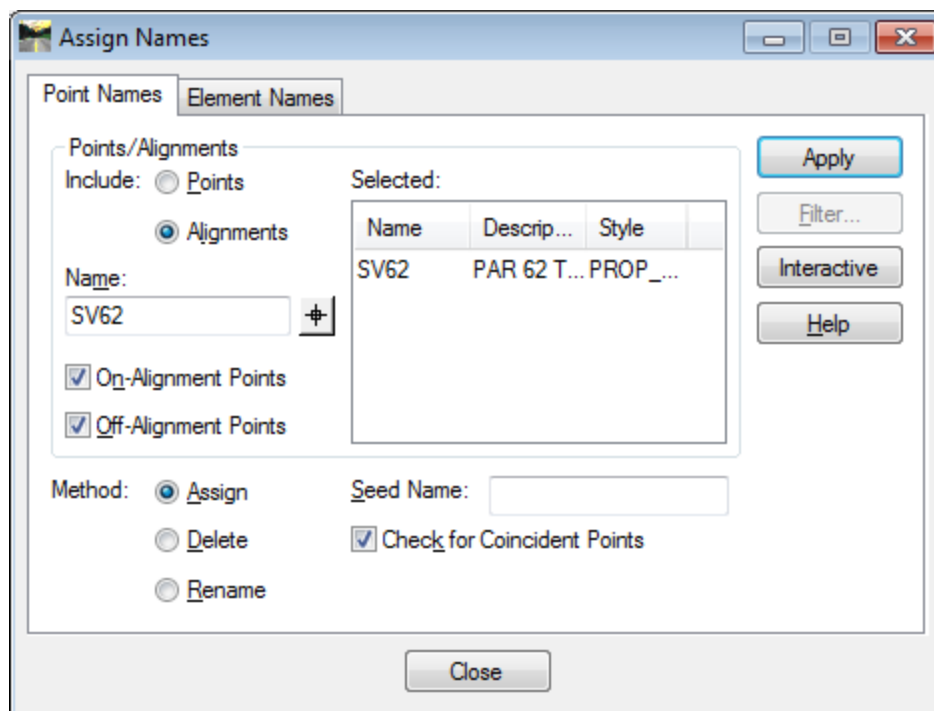

Figure L14-10 Assign Names Dialog
- Verify the rest of your settings match those shown in *Figure L14-10*.